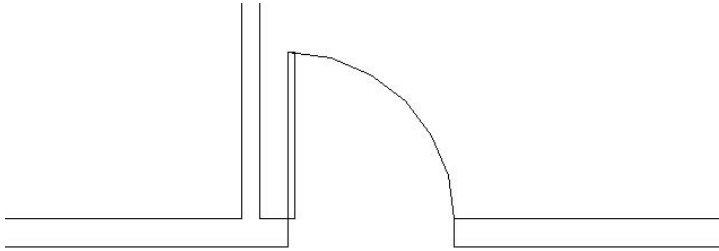

FIGURE 5.3 : Zoomed in to the front opening
1. With AutoCAD running, open your cabin drawing (last saved as Cabin04c), and use the Zoom command options to achieve a view similar to Figure 5.3.